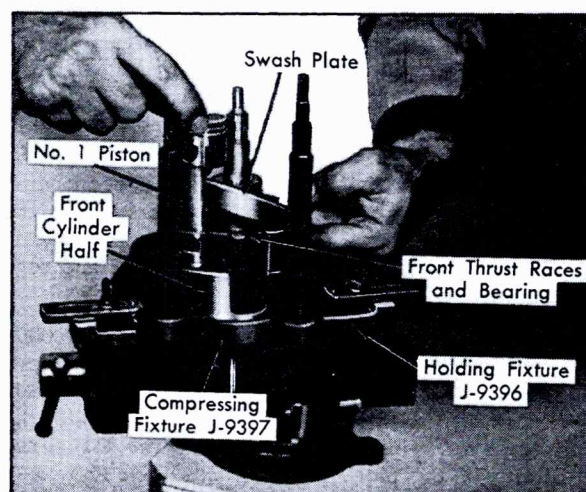

Fig. 1-65 Installing Piston
10. Position piston over #1 cylinder bore (notched end of piston on bottom and piston straddling swash plate) and lower the shaft to allow piston to drop into its bore, Fig. 1-65.